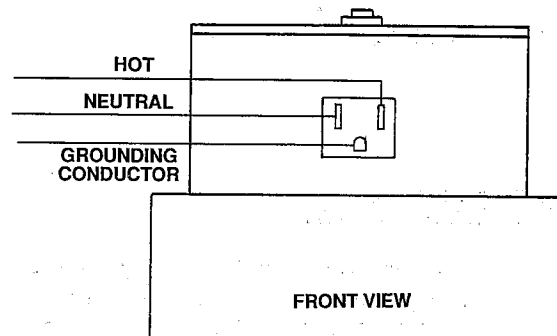

Figure 17
9. Remove junction box cover and install the required bushing into the 3/4 in. knock out. With the supply voltage turned off, route three (3) wires into junction box for connections. See Fig. 17.